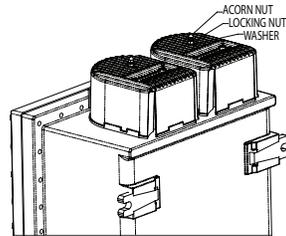

Figure 3
4. Insert washer and nuts onto end of threaded rod and tighten securely until shroud is firmly contacting the top wall of the enclosure. See Figure 3.